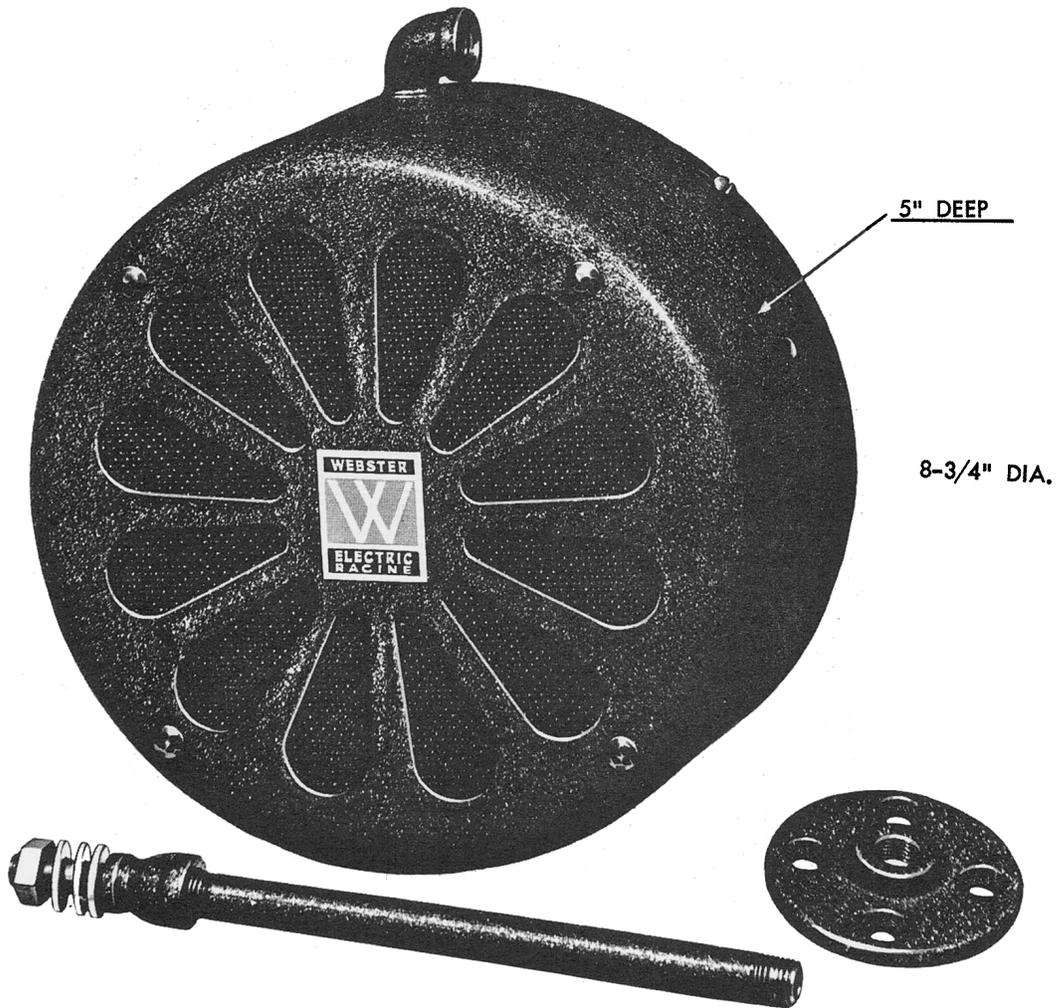

Fig. 4 - 8C45 Speaker Station
2.15 The speaker station 8C45-2 shown in Figure 4 is an 8-inch moisture-resistant speaker housed in a brown metal housing, protected front and back by wire screens. This model is for use in damp locations. It can be used outdoors, if protected from the weather. It has a bracket and fittings for mounting at various angles.